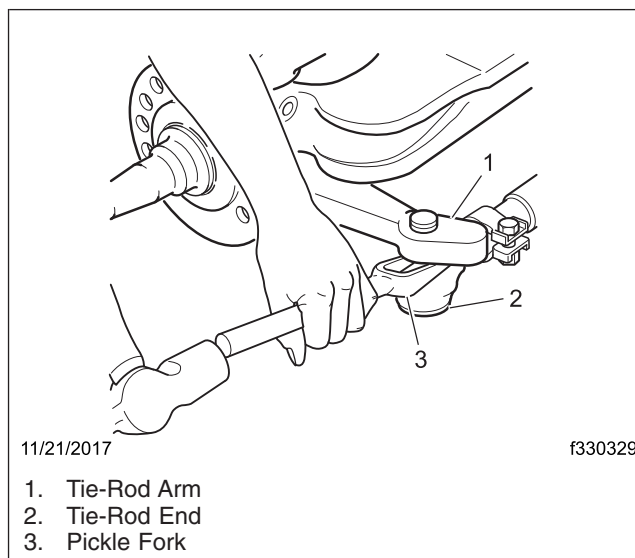

Fig. 12, Disconnecting Tie-Rod End
6. Disconnect the tie-rod end from the tie-rod arm using a suitable tool such as a pickle fork. See Fig. 12.